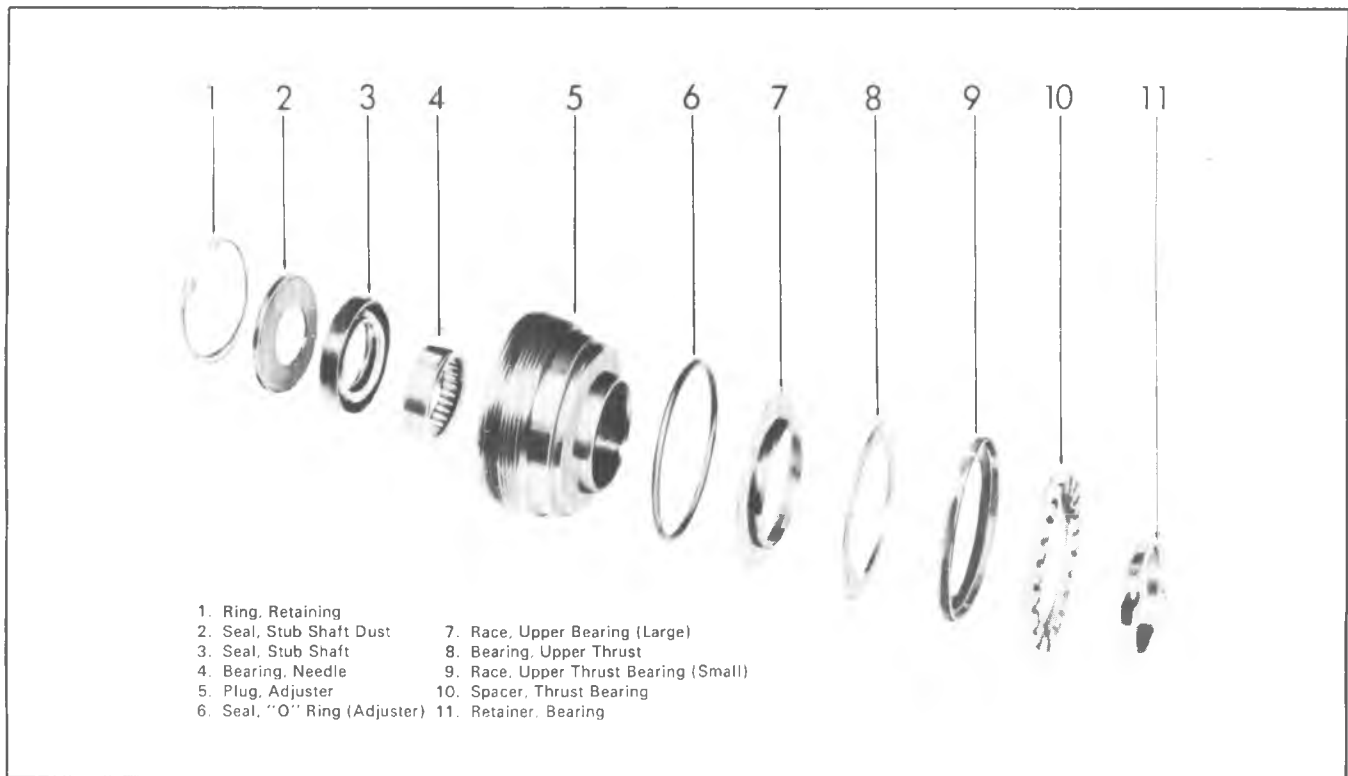

Fig. 3--Adjuster Plug
1. If the oil seal ONLY is to be replaced, and not the needle bearing, install the adjuster plug (Fig. 3) loosely in the gear housing. Remove the retaining ring with Internal Pliers J-4245. With a screwdriver, pry the dust seal and oil seal from the bore of the adjuster plug being careful not to score the seal bore. Discard the oil seal.